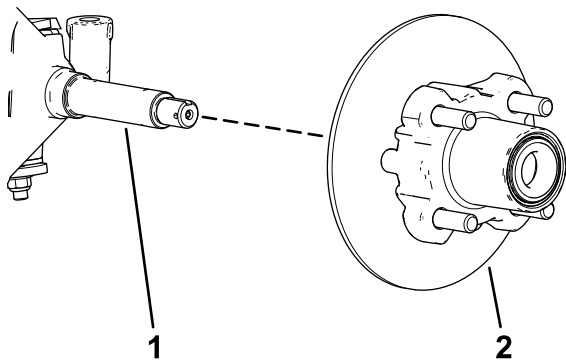

**Figure 34**
4. Remove the dust cap from the hub (Figure 34).
5. Remove the cotter pin and nut retainer from the spindle and spindle nut (Figure 34).
6. Remove the spindle nut from the spindle, and separate the hub and rotor assembly from the spindle (Figure 34 and Figure 35).